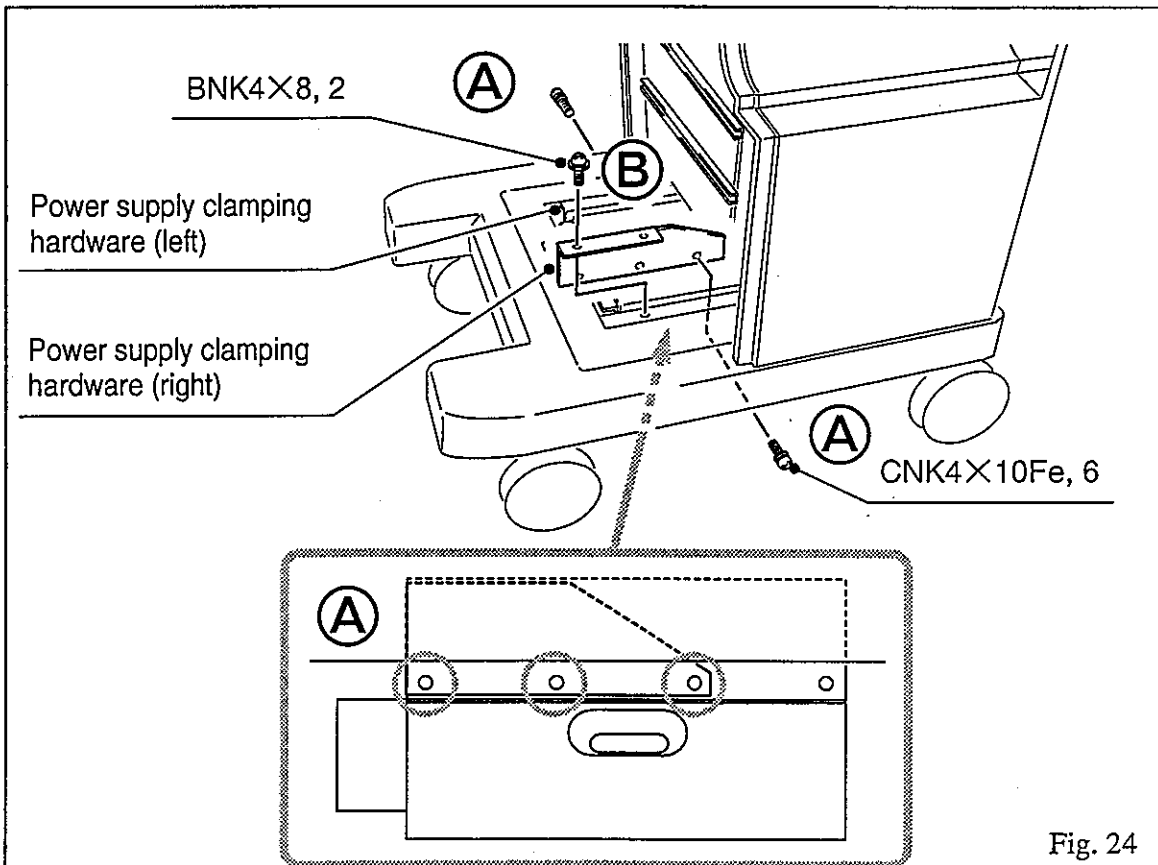

Fig. 24
- (9) Unfasten 3 screws on the side of power supply clamping hardware (right and left). (A in fig. 24)
- (10) Unfasten 2 screws and remove power supply clamping hardware (right). (B in fig. 24)